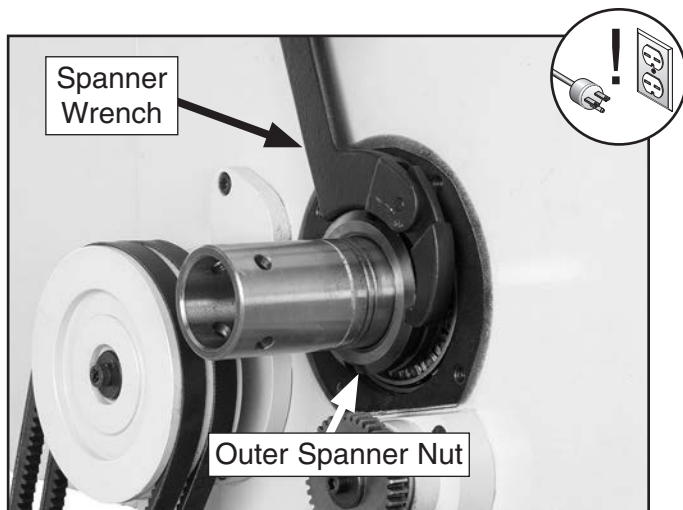

Figure 116. Loosening outer spanner nut.
6. Using a spanner wrench, or hammer-and-punch, loosen outer spanner nut (**Figure 116**) counterclockwise and remove it.